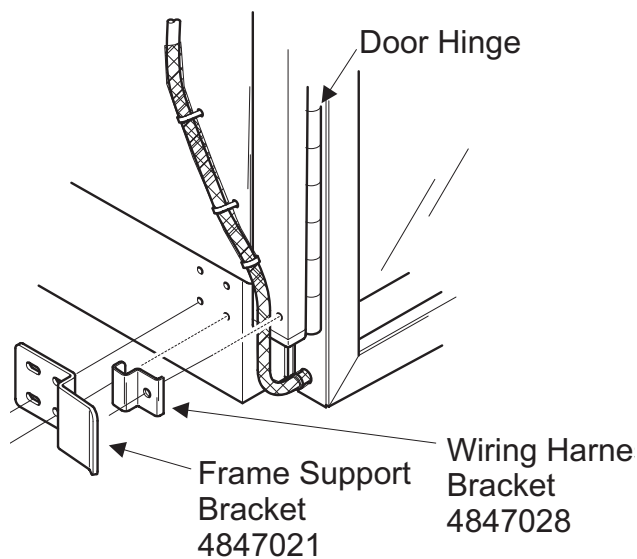

Figure 6
13. Attach the Wiring Harness Bracket, 4847028, with one (1) 8-18 x .38 hex head screw, 4721035 (figure 6).